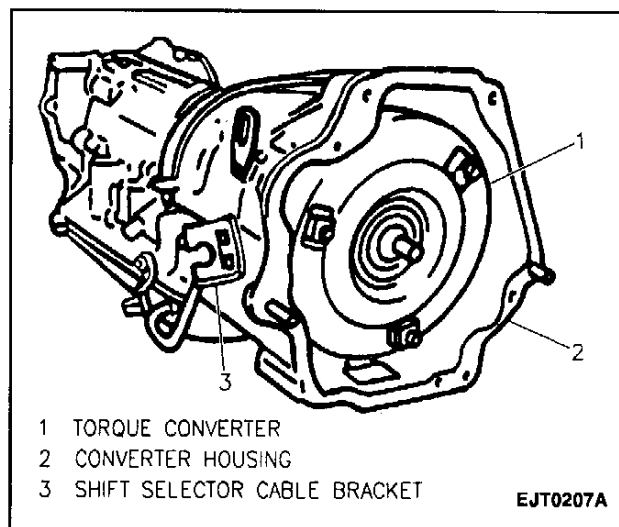

Figure 126—Shift Selector Cable Bracket
22. Two bolts and shift select cable bracket from transmission (Figure 126).